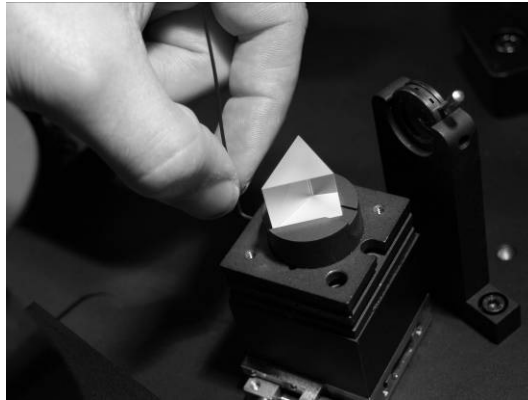

Figure V.4: Setting the prism angle.
- 4.3.1. Start with prism P1. Loosen the set screw on the prism tilt stage so that the prism mount can be rotated freely. Look at the reflection of the signal beam from the input surface of the prism on a piece of white paper or card. Rotate the prism slowly to find the position where the brightness of the reflected beam is minimised (Brewster's angle). This will need to be done with careful positioning of the prism translation stage so that the OPO continues to work over the range of angles of close to the optimum angle. When the correct angle is found hold the prism mount still and lock the set screw. (See Figure V.4).